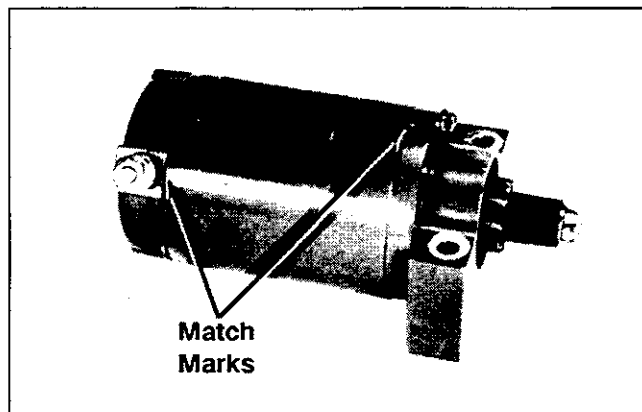

Figure 8-10. Starter Assembly Match Marks.
- Scribe a small line on the drive end cap, opposite the line on the starter frame. These lines will serve as match marks when reassembling the starter. See Figure 8-10.
3. Install the drive end cap over the drive shaft. Make sure the match marks on the end cap and starter frame are aligned. See Figure 8-10.